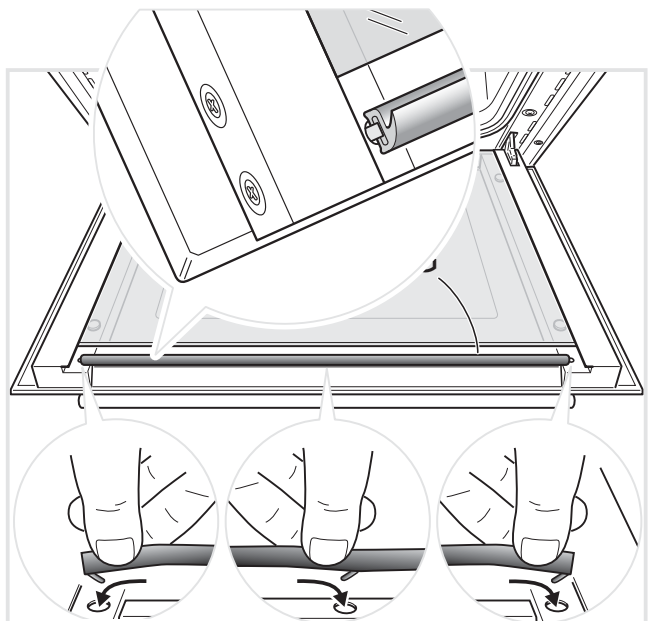

Figure 32d
- Reassemble the seal “G” in the correct way by hooking the no. 3 fixing hooks in the proper holes (fig. 32d).